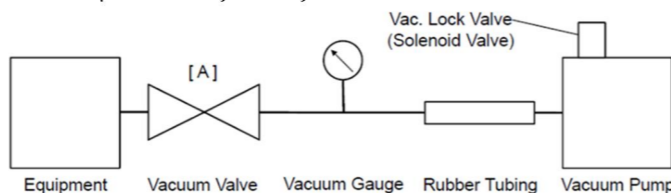
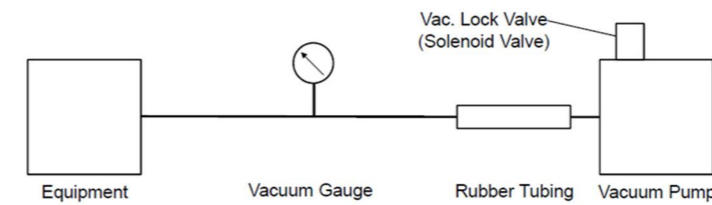

Fig.5 Connection 1 with Vacuum System for PVD-180B, -360B
Fig.6 Connection 2 with Vacuum System for PVD-180B, -360B
- 4) Connection as shown in Fig.5 and Fig.6 can be usable for PVD-180B and PVD-360B. In case of Fig.6, almost the same connection as Type PVD-180 and PVD-360 except no leak valve. In case of Fig.5, the equipment will be kept in vacuum by "Vac Lock Valve". The back streaming of the pump liquid into the equipment will never occur but the pressure in the equipment will reach atmospheric usually in a day.